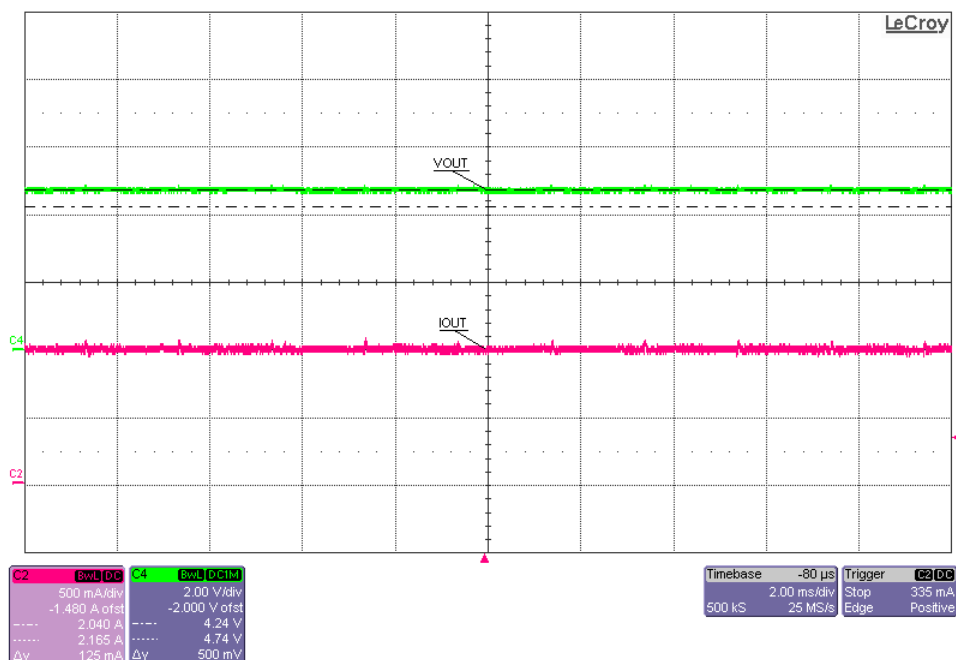

Figure 2. bq51221 in Steady State Operation with bq24250EVM
- Figure 2 shows the VOUT and IOUT from the RX as the battery charges